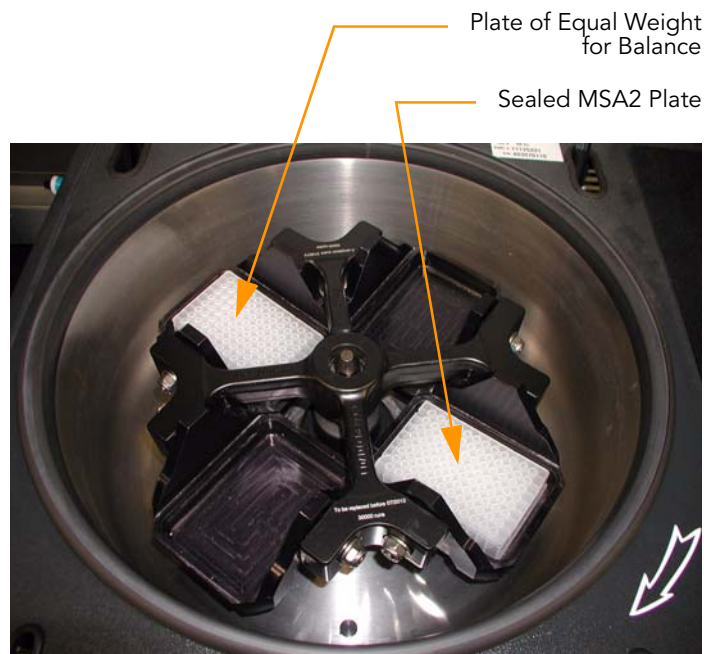

Figure 25 Balancing MSA2 Plate in Centrifuge
12. Place the sealed MSA2 plate in the centrifuge opposite another plate of equal weight (Figure 25).